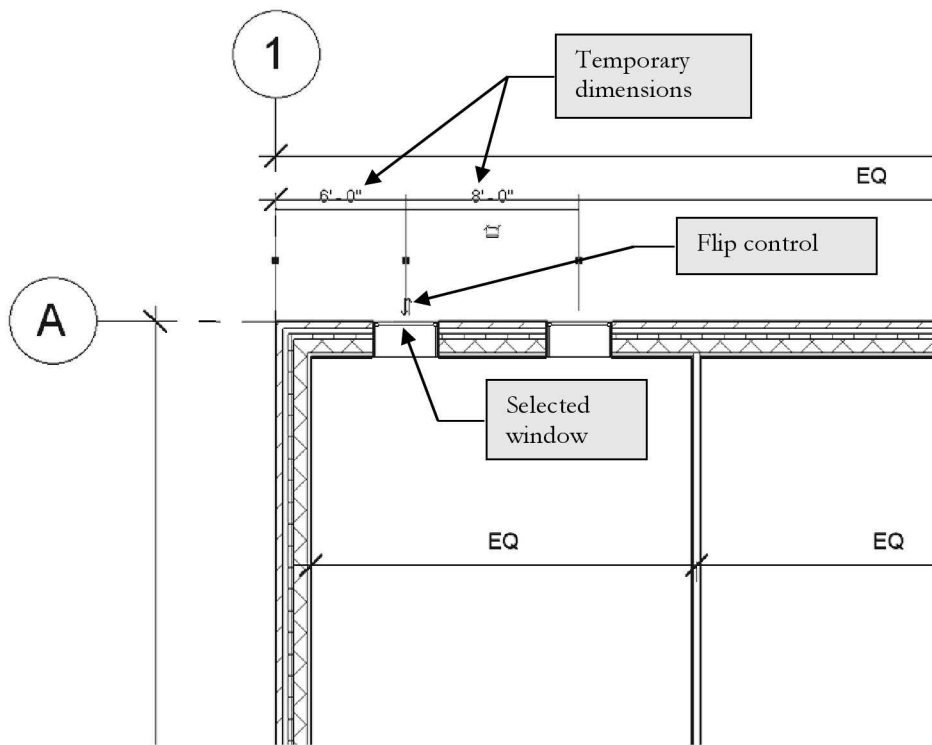

FIGURE 2-3.2 Adding windows – temporary dimensions still active
4. Move your cursor over a wall and place **two windows** as shown in **Figure 2-3.2**. Notice that the position of the window changes depending on what side of the wall your cursor favors.
- a. Dimensions per Figure 2-3.2.